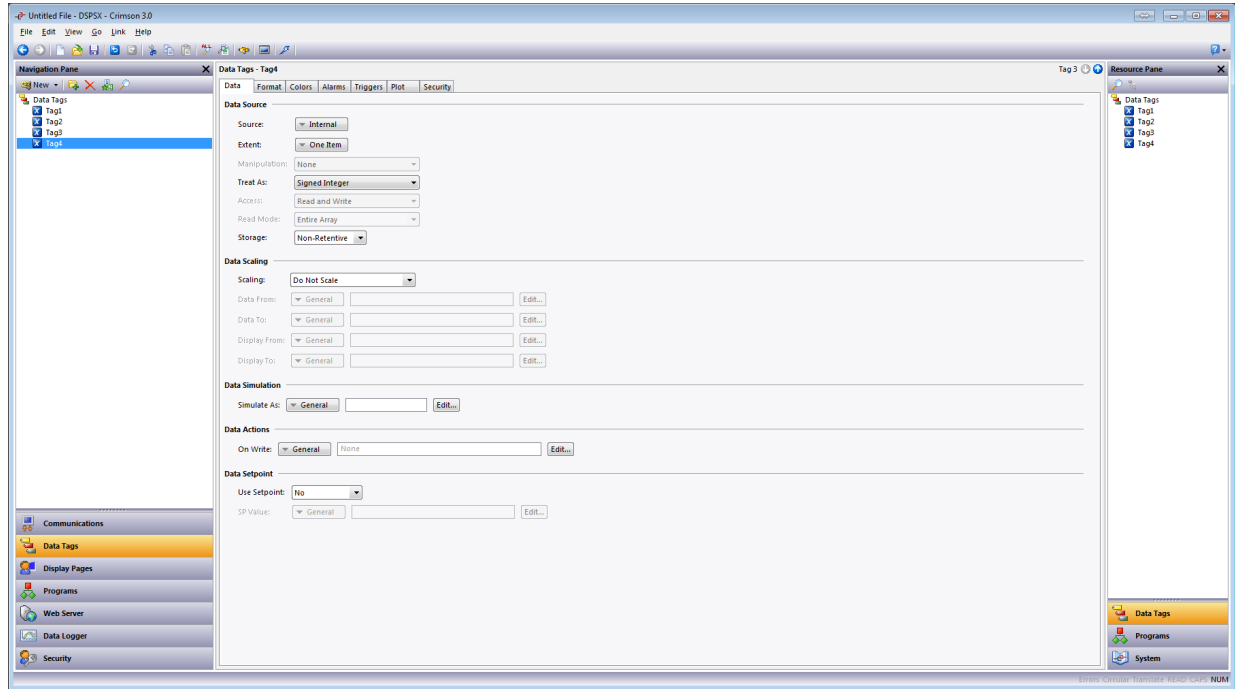

Figure 10.
- Referring to Figure 10, navigate to the Data Tags section.